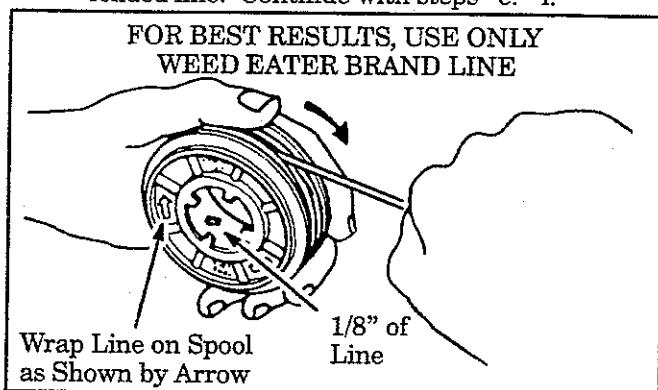

Figure 22
- c. Insert 1/16" to 1/8" of the end of the line through the hole in the spool. Figure 22. Allow no more than 1/8" line to extend inside the spool.
- d. Wrap the line onto the spool firmly and evenly in the direction shown by the arrow on the spool. Figure 22.